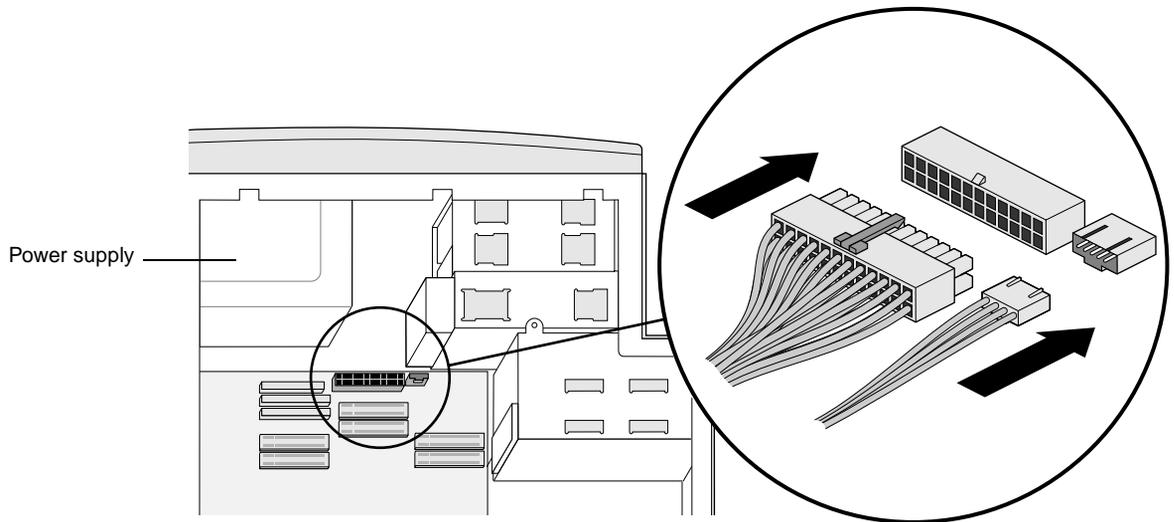

Figure 7-7 Attaching the Power Supply Cables to the System Board
6. Reattach the two cables to the system board, as shown in Figure 7-7. The connectors for these cables are located below the power supply and above the center set of DIMMs.